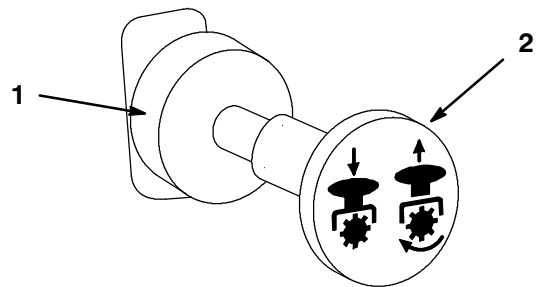

Figure 6
3. Pull out on the power take off (PTO) switch to engage (Fig. 6).
1. To disengage push the PTO switch to the “OFF” position (Fig. 6).